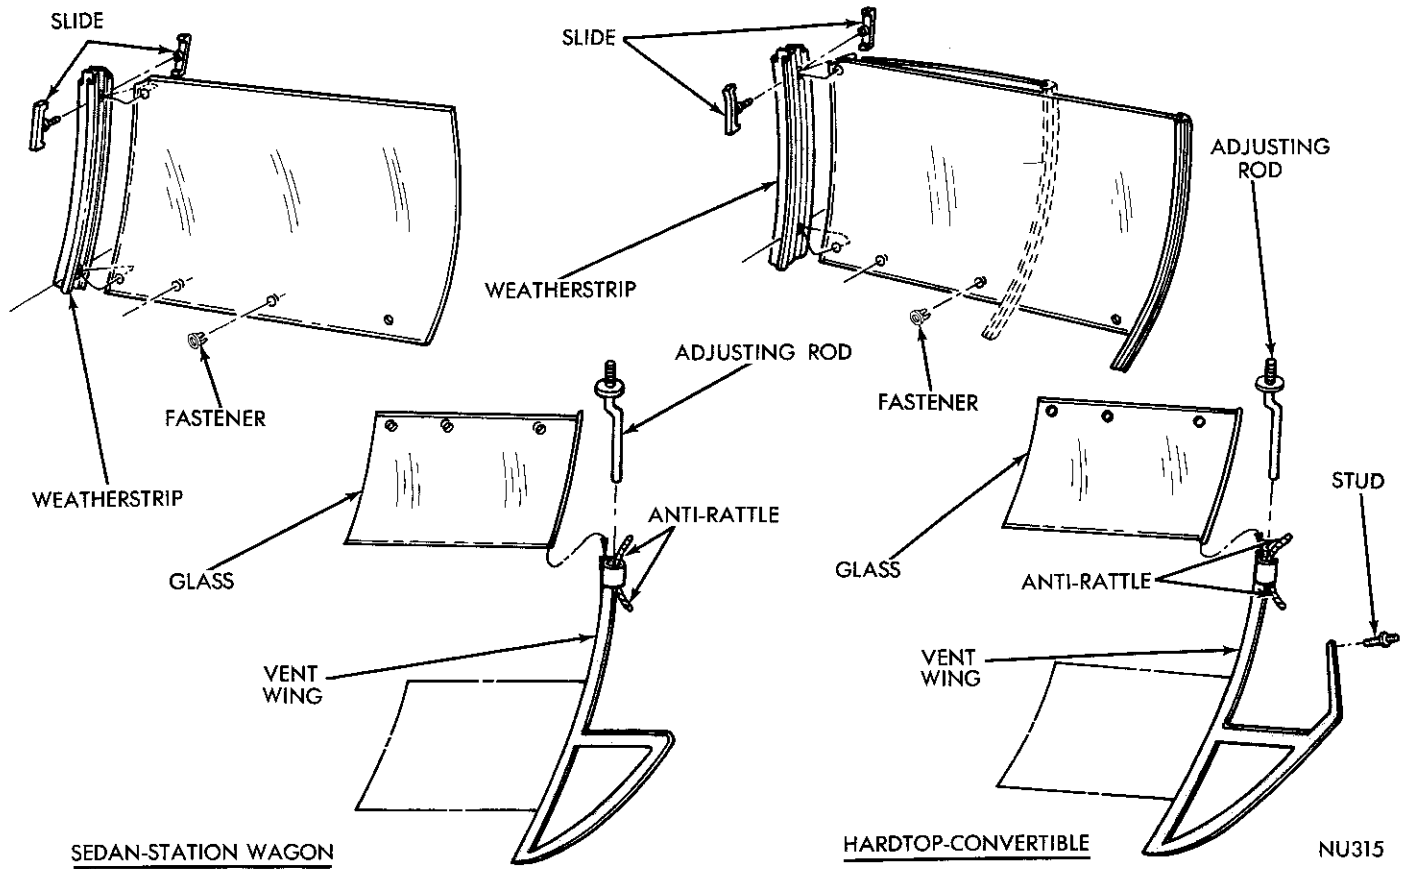

Fig. 45—Glass Assembly
(1) Invert door glass and vent wing assembly.
(2) Remove vent wing adjusting stud at hinge reinforcement (Fig. 45).
(3) Remove lower adjusting stud and anti-rattle from division channel.
(1) Insert lift channel fasteners into glass from concave side (Fig. 45).
(2) Position weatherstrip on glass front edge with notched end in up position.
(3) Raise edge of weatherstrip and insert slide at attaching in glass. Secure by pressing together.
(4) With glass and vent wing in inverted position